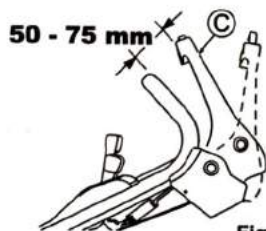

Fig. 30
Adjust so that the blade starts rotating when the distance between Blade lever (C) and the handle is 50 - 75 mm with the yellow button pressed as shown in Fig. 30.